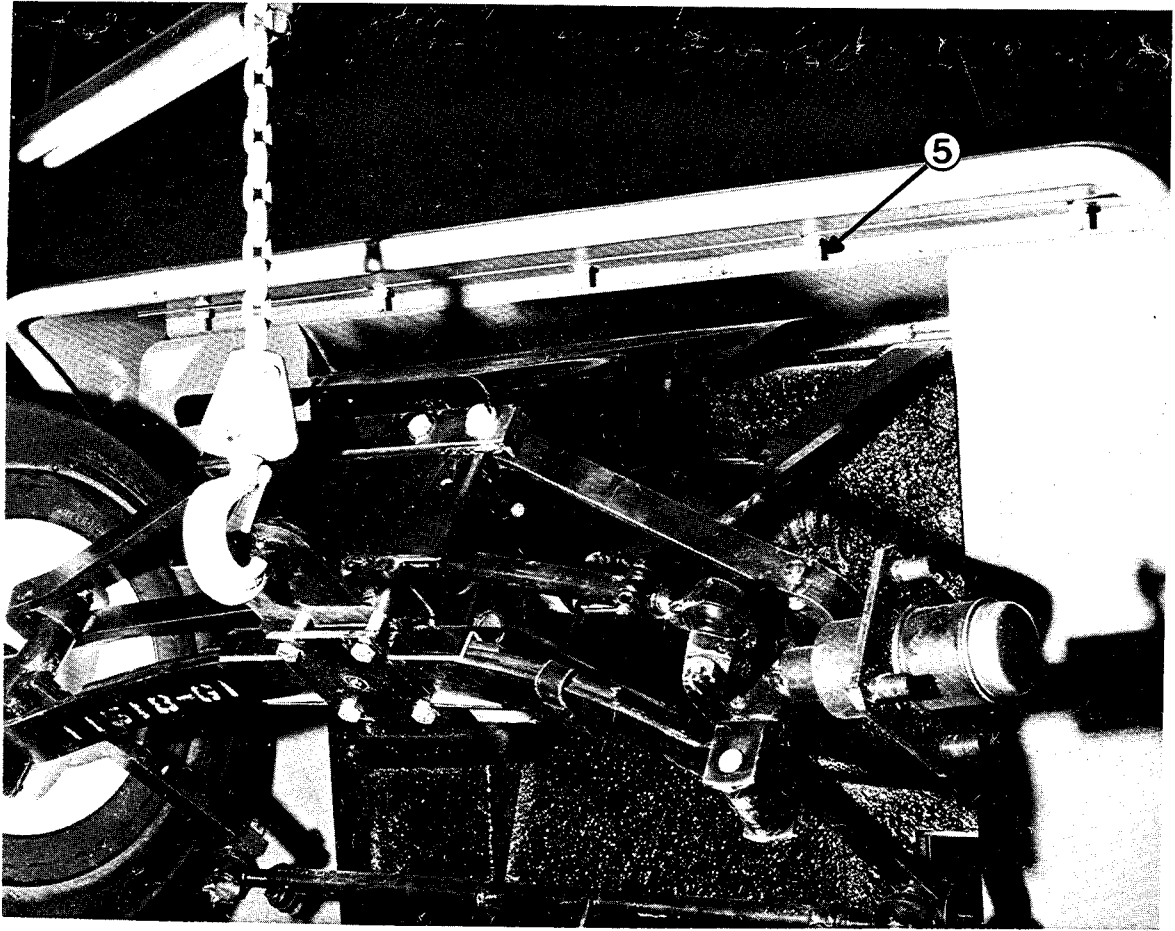

FIG. 6 M
Removal procedure for the four wheel car front cowl is the same as for three wheel car except for removal of five nuts (5) under the front. (See Fig. 6 M).